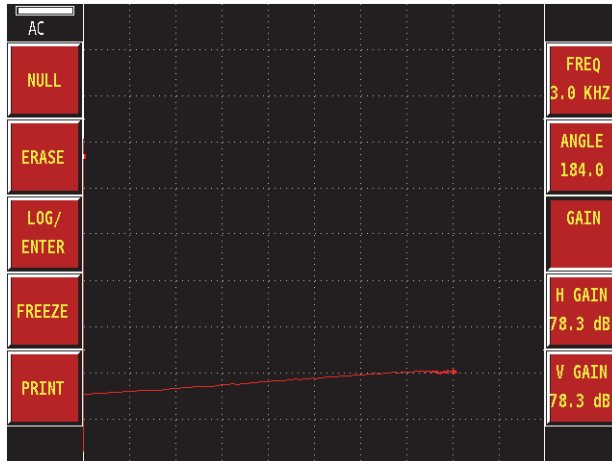

Figure 4-10
20. If signal moves to the right, decrease the frequency 1 horizontal gain until the signal moves to the left and is almost horizontal (see Figure 4-10 on page 84).